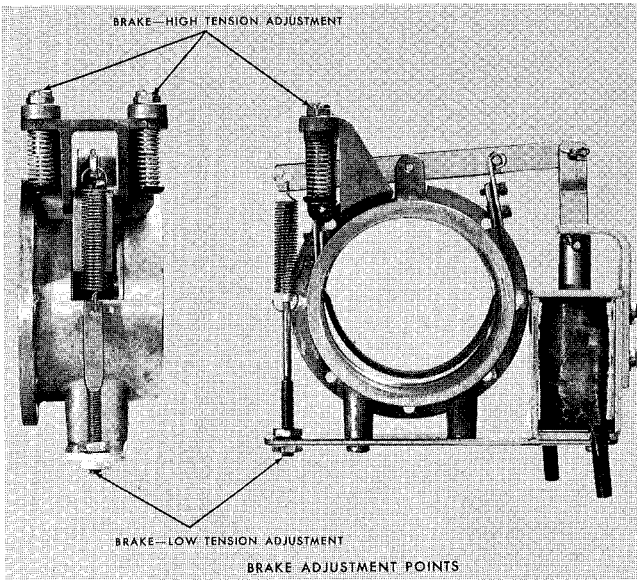

Figure 4-8 BRAKE ADJUSTMENT
| <p>0 to 16 ounce spring scale or equivalent.</p> <p>Step 6: Depress the PLAY button and allow the clockwise motion of the supply reel (torque motor tension) to draw a turn of twine onto the hub.</p> <p>Step 7: Make certain that the twine is now parallel to the plane of the top of the tape transport and that the twine is centered and not touching either reel flange.</p> <p>Step 8: Now let the torque motor pull the twine slowly onto the hub by following the torque motor force with the scale.</p> <p>Step 9: Using this "following" technique, observe the readings on the scale until a constant reading is obtained.</p> <p>Step 10: If necessary adjust the slides on resistor R801 on the resistor and</p> | <p>relay bracket until the desired reading is obtained.</p> <p>Step 11: Use the procedures in the preceding steps to check and adjust the takeup tension which is set at R803 (note that the reel on this side will move counterclockwise.)</p> <p style="text-align: center;">BRAKE ADJUSTMENT</p> <p>Brake adjustment is made (with no power applied to the equipment) at the points shown in Figure 4-8.</p> <p>Step 1: Place an empty 10-1/2 inch NAB reel on the tape supply turntable.</p> <p>Step 2: Make small loops at both ends of a thirty inch piece of nylon lacing twine.</p> <p>Step 3: Attach one loop to the tape anchor on the reel hub and the other to a</p> |
Step 6: Adjust the supply and takeup motors brakes for scale readings listed below. Points of adjustment are shown by illustration in Figure 4-8.